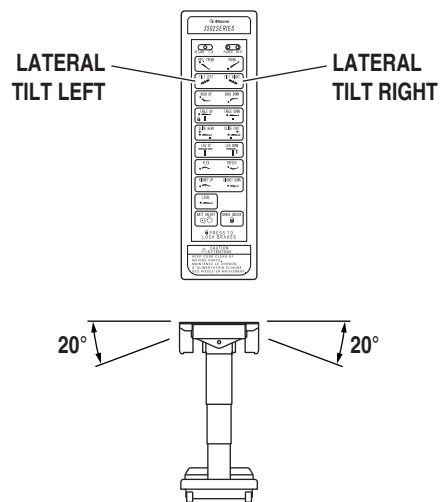

Figure 2-9. Lateral Tilt Positioning
c. Lateral Tilt To achieve lateral tilt right (as viewed from the head end of the table), press the TILT RIGHT button (figure 2-9). Tilt of up to 20° may be obtained. To achieve lateral tilt left, press the TILT LEFT button. Tilt of up to 20° may be obtained.